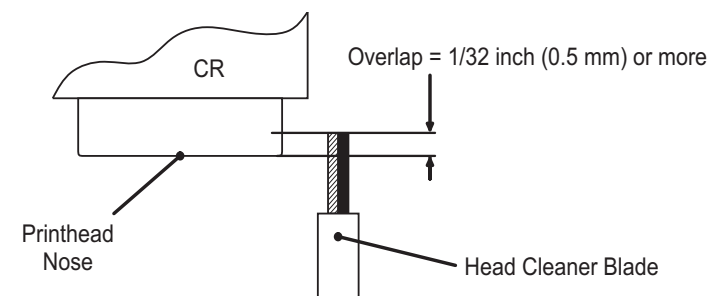

Figure 5-3. Contact Between Printhead and Cleaner Blade
2. Move the carriage so it's next to the cleaner blade, and make sure the overlap between the printhead and the cleaner blade is at least 1/16 inch (0.5 mm). If not, adjust or replace the blade. See Figure 5-3.